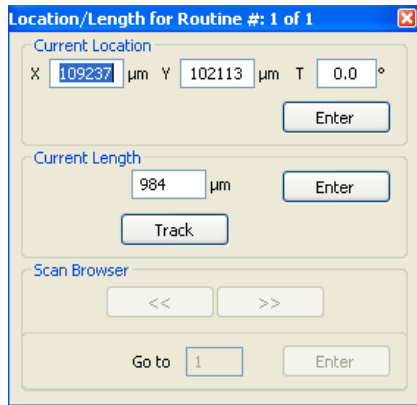

Figure 5: Selecting scan length.
- Select Edit > Define Scan Location/Length. The window in Figure 5 will show up. To save current location as scan start location, click on upper Enter button.